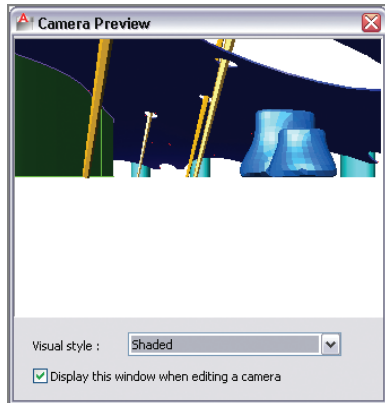

FIGURE 16.17 Camera Preview window showing the new position of the camera “on the ground”
7. Drag the Camera & Target Location grip forward until the camera is under the outer edge of the dome. Figure 16.17 shows the Camera Preview window. You will correct the fact that the camera is “on the ground” in the next step.